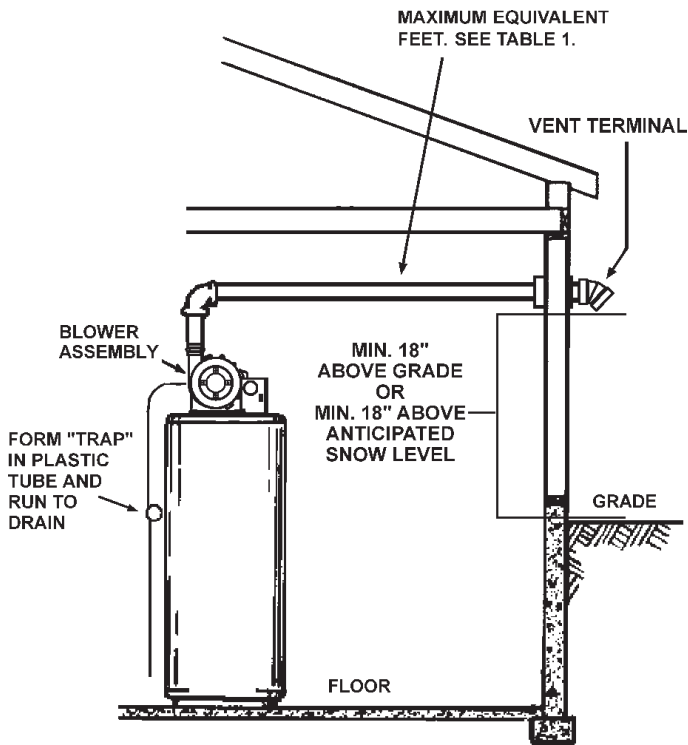

FIGURE 20
The first step is to determine where the vent pipe will terminate. See Figures 15, 20 and 21. The vent may terminate through a sidewall as shown in Figure 20 or through the roof as shown in Figure 21.
1. Vent Termination must extend a minimum of 18 inches (46 cm) above roof or 18 inches (46 cm) above the anticipated snow level to prevent blockage of the vent termination, as shown in Figures 20 and 21.
2. The venting system shall terminate at least four (4) feet (1.2 m) from or one (1) foot (30 cm) above any gable, dormer or other roof structure with building interior access; i.e., vent, window, etc.
3. The venting system shall terminate three (3) feet (91 cm) above any forced air inlet located within ten feet (3.0 m).